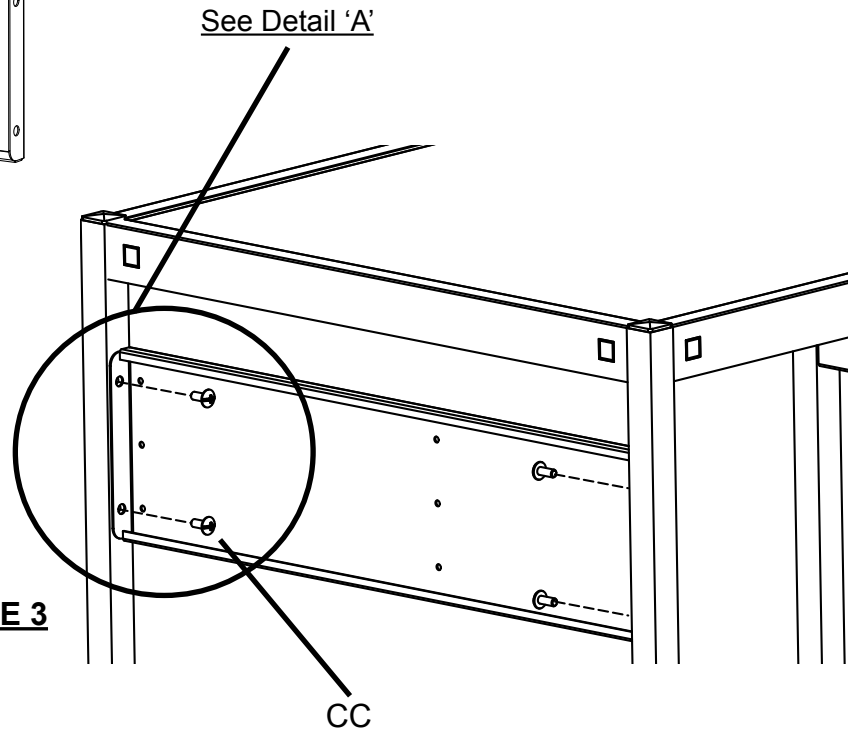
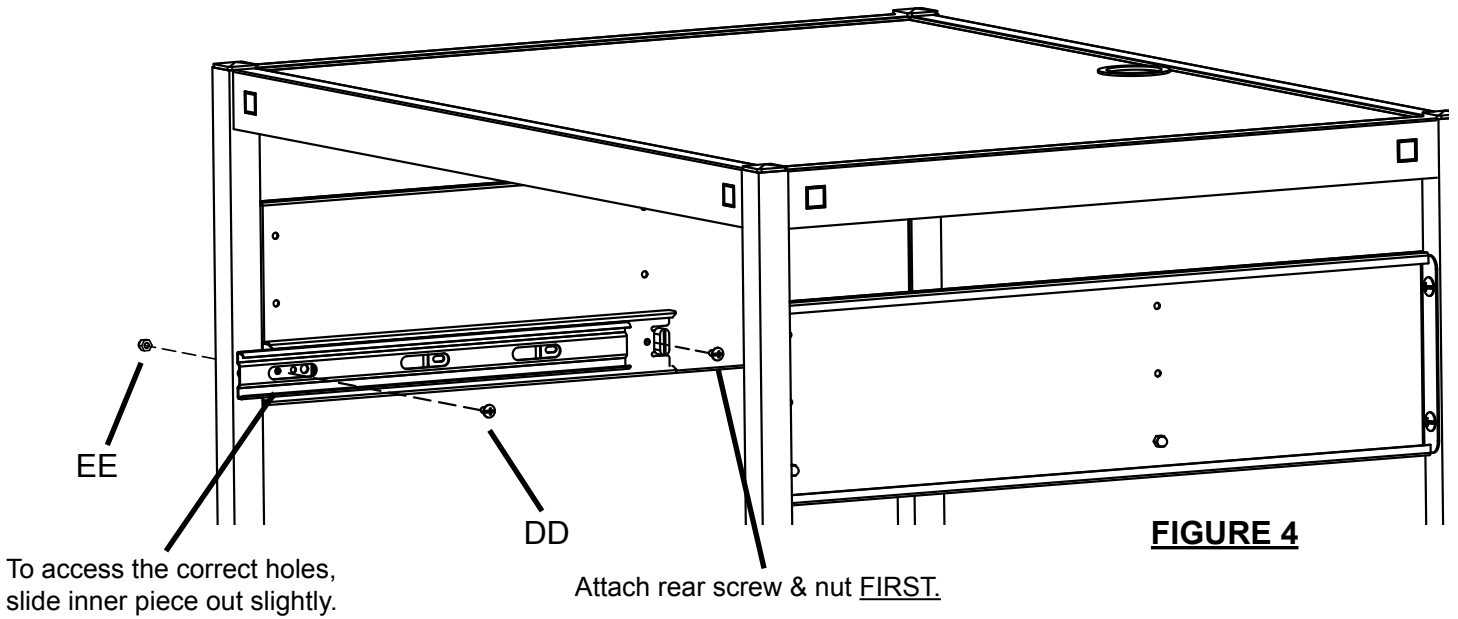

FIGURE 3
FIGURE 4
Attach shelf support brackets to upper portion of rear legs with screws (CC) as shown in **FIGURE 3**. Refer to Detail 'A' for correct position of bracket. Then separate each slide and attach the outer section to the inside of each shelf support bracket with screws (DD) and nuts (EE) as shown in **FIGURE 4**.